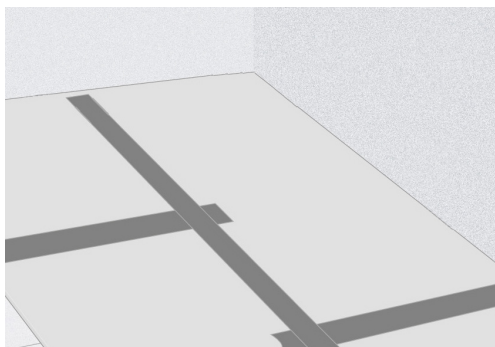

Fig.4. Install underlayment
5. Install the 6mm underlayment boards, the entire subfloor shall be covered - creating a new stable and insulated base for the heating foil. (fig.4)